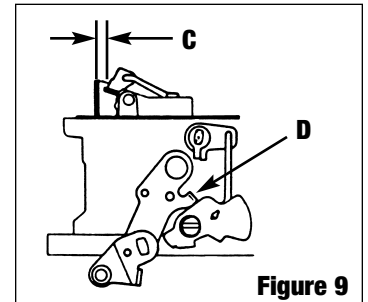

Figure 9
• **DISPOSITIF DE DÉCOMPRESSION (FIG. 9)**